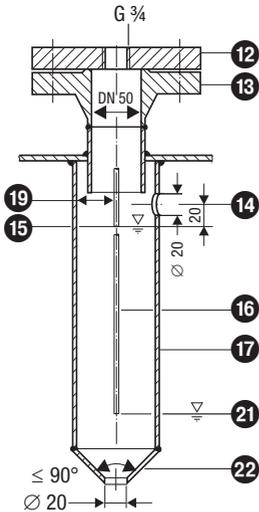

Fig. 5 Protection tube (provided on site) for installation inside the boiler
- The level transmitter NRG 26-1 can be installed together with one GESTRA level electrode for water level limiting or for high-level alarm in a single protection tube or external level pot (inside diameter 100 mm). **Fig. 5 - 8**. If the level limiting electrode is installed inside the vessel, it must be at least 40 mm away from the upper vent hole.